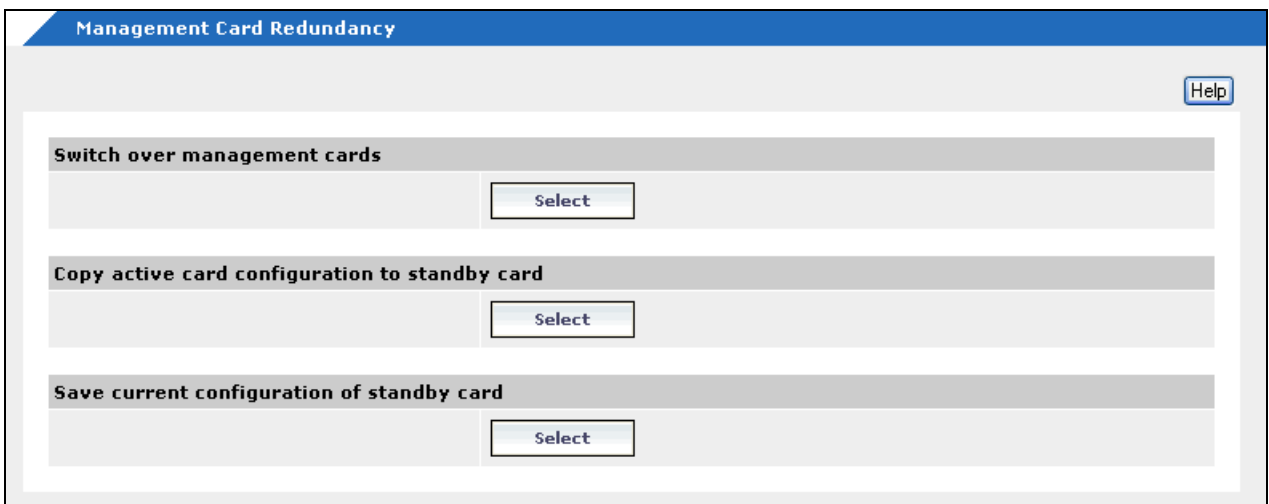

Figure 50. Management Card Redundancy Tab
1. Select **Management Card Redundancy** from the menu bar to display the tab in Figure 50.